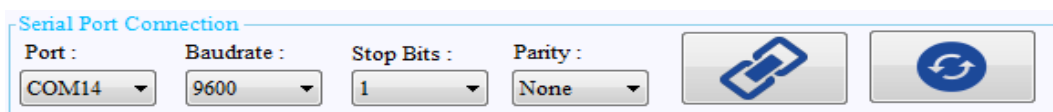

Figure 17
- For interfacing with USB CONVERTER Click on USB in media section. After selecting media, check COM port number. If it is not available click on  button and select proper Communication Port, Change the Baud rate, stop bits as shown in Figure 17.